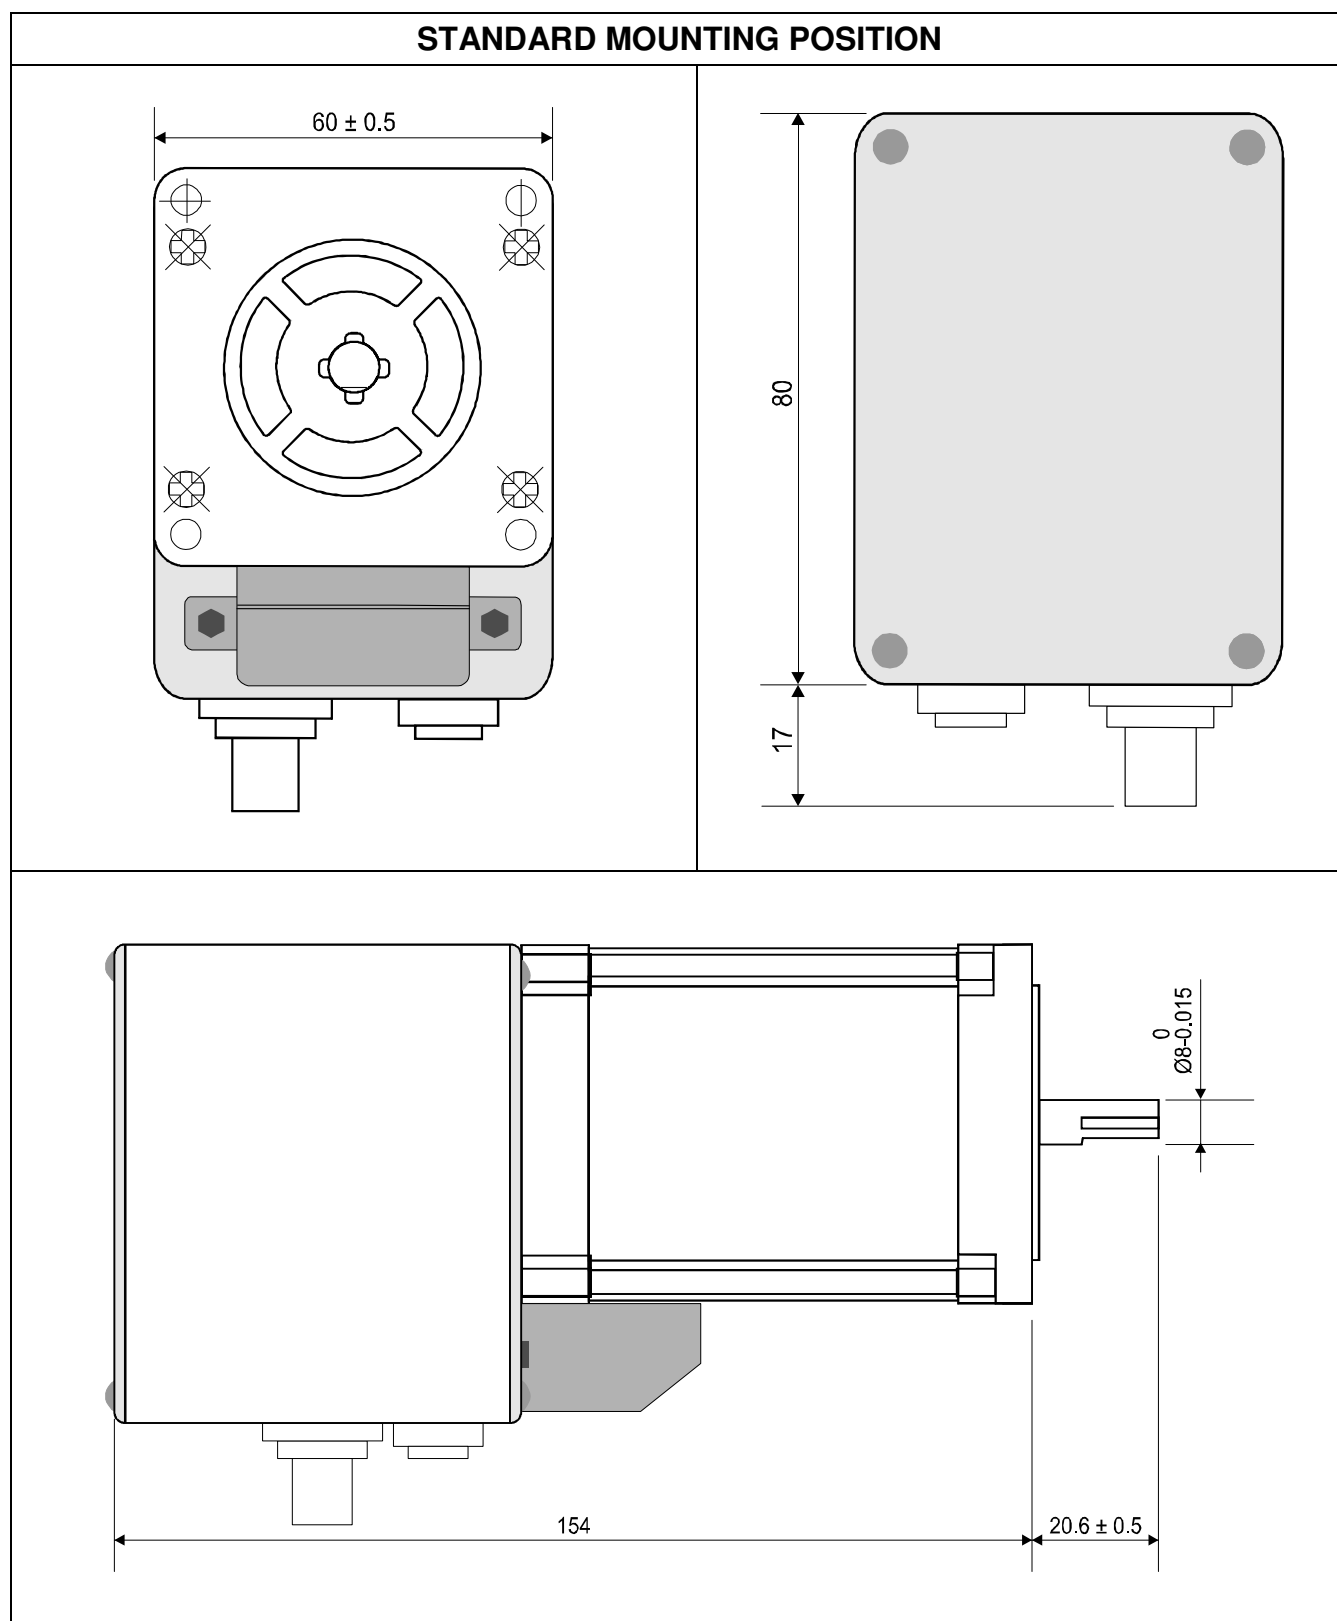

Figure 1 – Dimensions in mm.
- 2.2 - R-MOD ET series drives must be mounted as in Fig. 1. Do not take out or insert connectors when the drive is switched on.